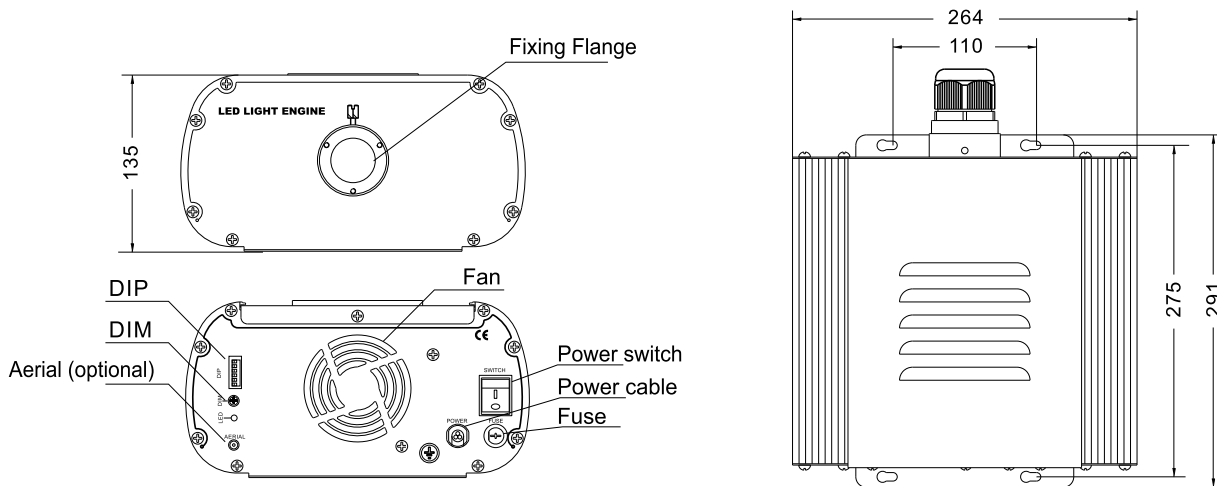

Fig. 1
1. Installation dimension of light engine (see Fig.1):